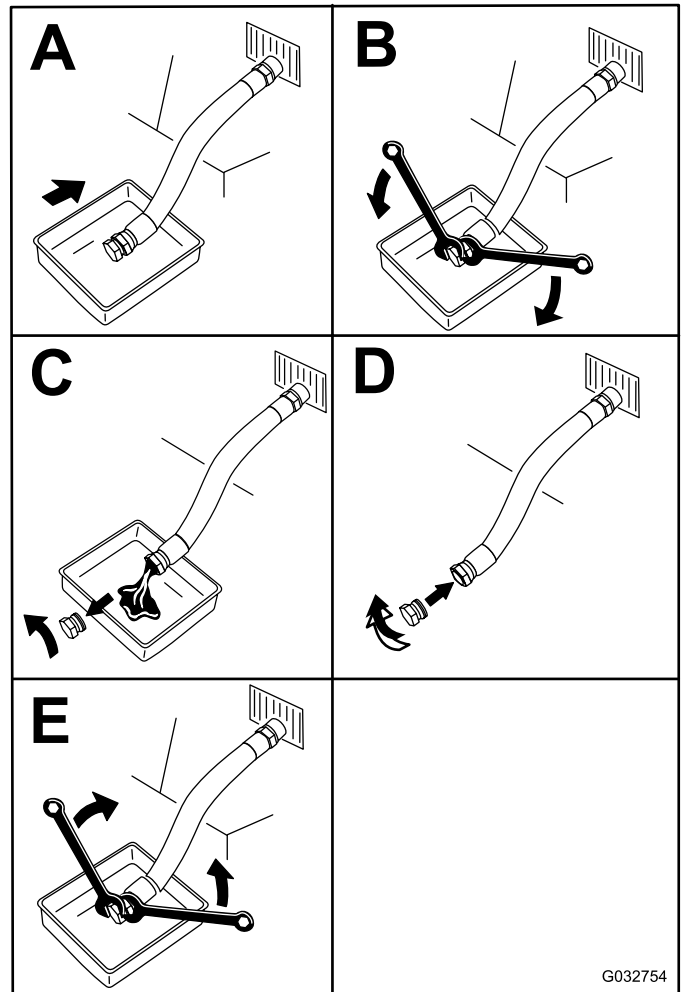

Figure 35
5. Change the oil (Figure 35).